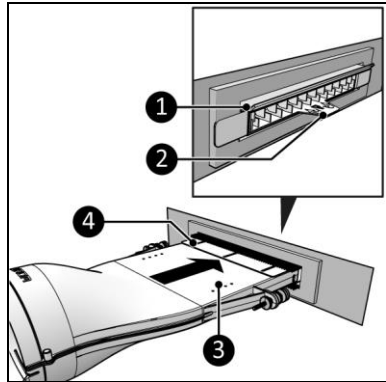
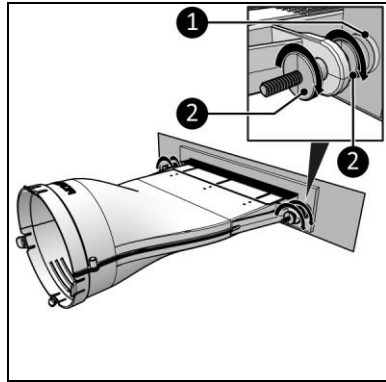

Figure 3
Figure 5
1. Insert the main body (Figure 3, pos. 3) into the transit (Figure 3, pos. 4).
2. Make sure only the handle (Figure 3, pos. 2) is sticking out from the mailbox (Figure 3, pos. 1).
3. Adjust and tighten both sides using the adjusting screws (Figure 5, pos. 2).
4. Make sure the supports (Figure 5, pos. 1) are pressed against the inside of the door. When the mailbox flap goes inwards, make sure only the handle (Figure 3, pos. 1) sticks out from the mailbox.